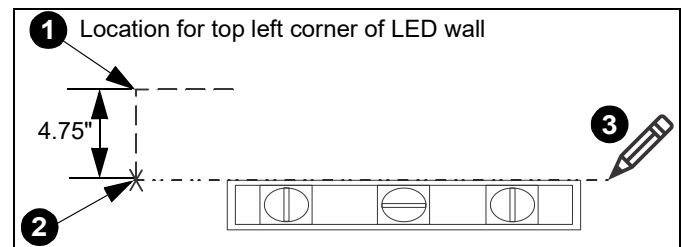
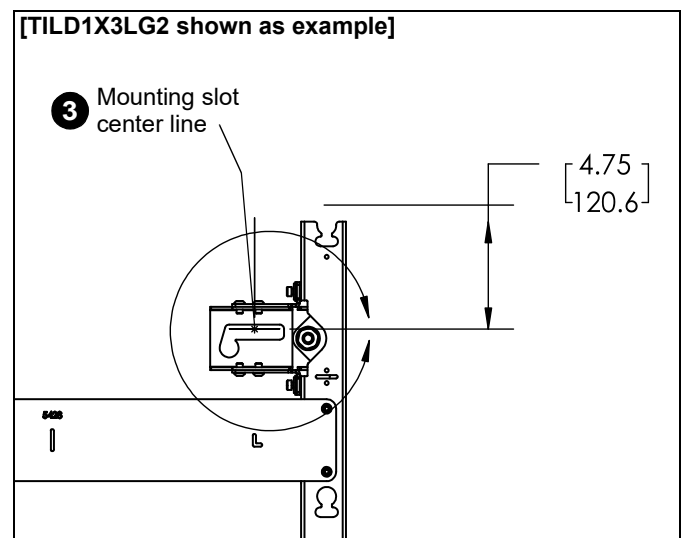

Figure 4
Figure 5
**IMPORTANT !** : The top of the LED screen is 4.75" above the center line of the mounting lags in the upper mounting slots. (See Figure 4)
1. Determine location for the **top left** corner of the LED wall. (See Figure 4)
2. Make a mark 4.75" below the planned top left corner of the LED wall. (See Figure 4)
**NOTE:** This line will indicate the center line for the location of the mounting lags in the mounting slots for the top mount(s) in the video wall. The oversize mounting slots will allow some upward adjustment as needed. (See Figure 4) and (See Figure 5)